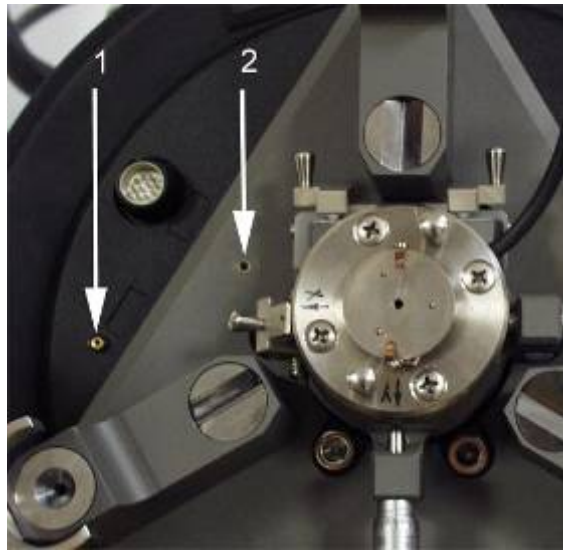

Fig. 2-64
- With this special substrate the sample is connected to the instrument via the contact spring wire with a plug which is inserted into the bias voltage socket on the approach unit. There are two sockets (Fig. 2-64) on the approach unit: 1 is for bias voltage or sample grounding, 2 is for grounding;